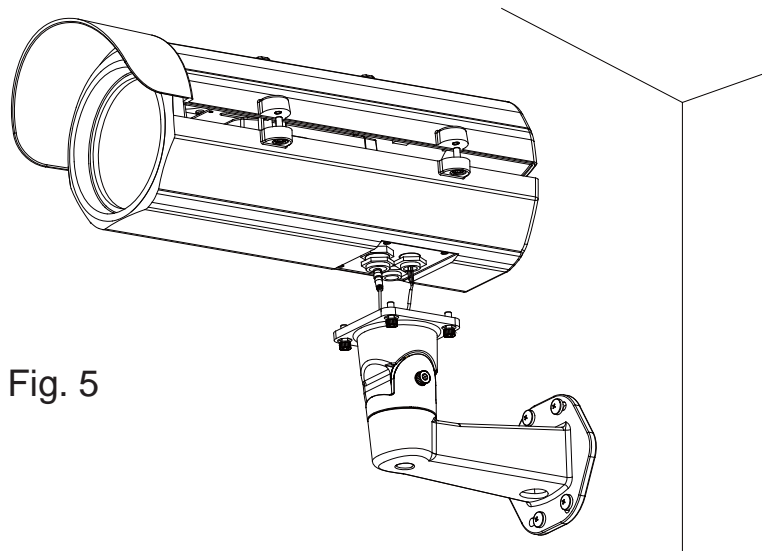

Fig. 5
- 3.3 Put the power cable and video cable through the bottom of the housing and let them pass from the hole. (Fig 5)